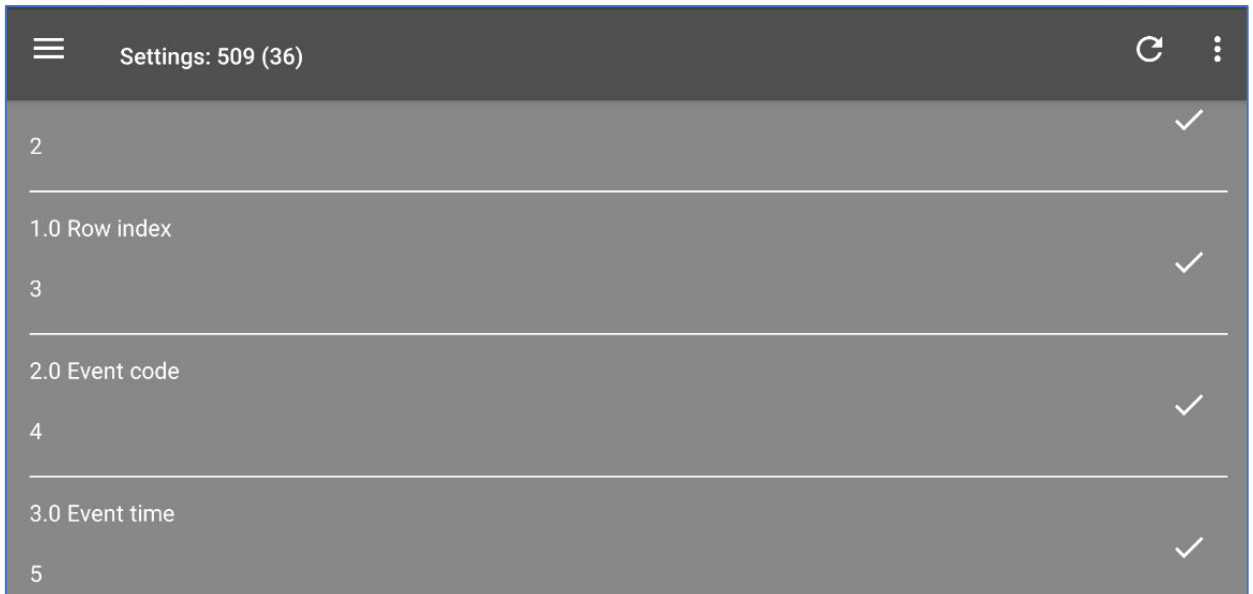

fig.3.7. Menu “Parameters”
7) Go to the menu “Parameters” (fig.3.7). Here is a full list of potentially available data in Teltonika or Flex (Navtelecom) data protocol.